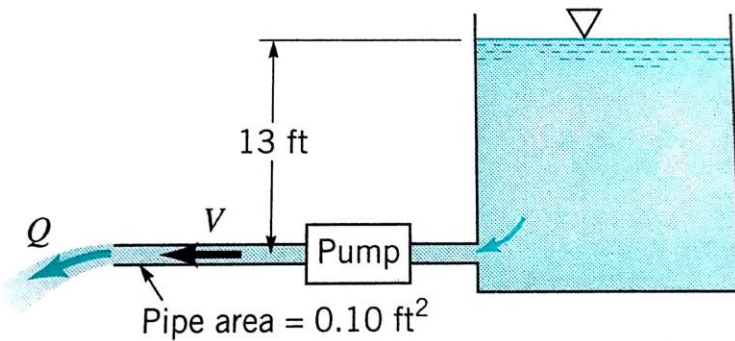

FIGURE P5.116
5.116 Water is pumped from the large tank shown in Fig. P5.116. The head loss is known to be equal to $4V^2/2g$ and the pump head is $h_p = 20 - 4Q^2$, where h_p is in ft when Q is in ft^3/s . Determine the flowrate.